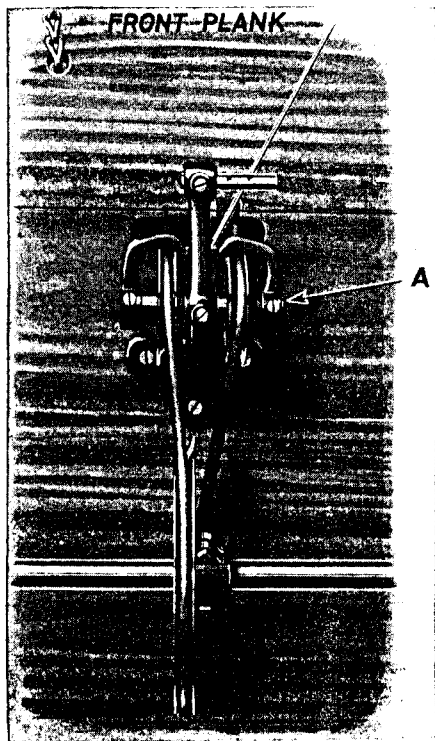
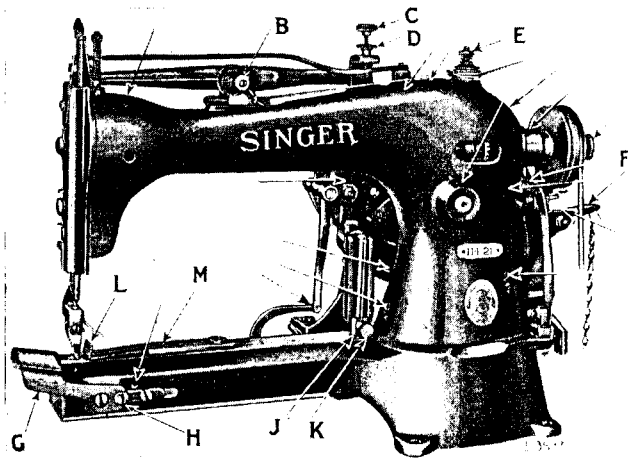

FIG. 3. UNDERSIDE OF POWER TABLE SHOWING BELT GUIDE
FIG. 5. OILING POINTS AT THE RIGHT OF THE MACHINE
An oblong belt hole, as shown in Fig. 3, should be bored in the table directly below the machine driving pulley, and the belt
guide (A, Fig. 3) fastened to the underside of the table, as illustrated above. The machine belt should then be passed around the driving pulley of the machine, around the two belt guide pulleys and around the large pulley on the driving shaft below.
The pitman connecting the right treadle with the starting lever (F, Fig. 5, page 8) should be passed through the belt hole in the table, as shown in Fig. 3, page 4.
Loosen the screw (M, Fig. 5, page 8) and slide the hat guide (L, Fig. 5) away from you or toward you as desired, then tighten the screw (M). When desired, the hat guide can be swung aside out of the way.
The hat support (G, Fig. 5, page 8) is hinged so that it can be turned down out of the way when desired. To lower the hat support, push back the lock (H, Fig. 5) and swing the hat support downwardly.
The pressure on the presser feet is regulated by the thumb screw (C, Fig. 5, page 8) and lock nut (D, Fig. 5). To increase the pressure on the presser feet, loosen the lock nut (D) and turn the thumb screw (C) over to the right or downwardly. To decrease the pressure, turn this thumb screw over to the left or upwardly. When the required pressure on the presser feet is obtained, firmly tighten the lock nut (D, Fig. 5).
The length of tack is controlled by the throw or amount of travel of the clamp lengthwise the bed of the machine. To increase the length of the tack, loosen the thumb screw (K, Fig. 5) and increase the throw of the clamp by moving the sliding block (J, Fig. 5) downwardly in the upright slot of the feed regulator. To decrease the length of the tack, decrease the throw of the clamp by moving the sliding block (J) upwardly. When the sliding block is at its highest point in the slot, there will be no movement of the clamp. When the desired throw of the clamp is obtained, firmly tighten the thumb screw (K, Fig. 5).
The tension should be as tight as possible without breaking the thread. To increase the tension on the thread, turn the thumb nut (B, Fig. 5) over from you. To decrease the tension on the thread, turn this thumb nut over toward you.
The thread nipper (E, Fig. 5) is automatic and requires no adjustment.
To ensure easy running and prevent unnecessary wear of the machine, the parts which are in movable contact should be regularly oiled at the places shown by arrows in Figs. 5, 6, 7 and 8.